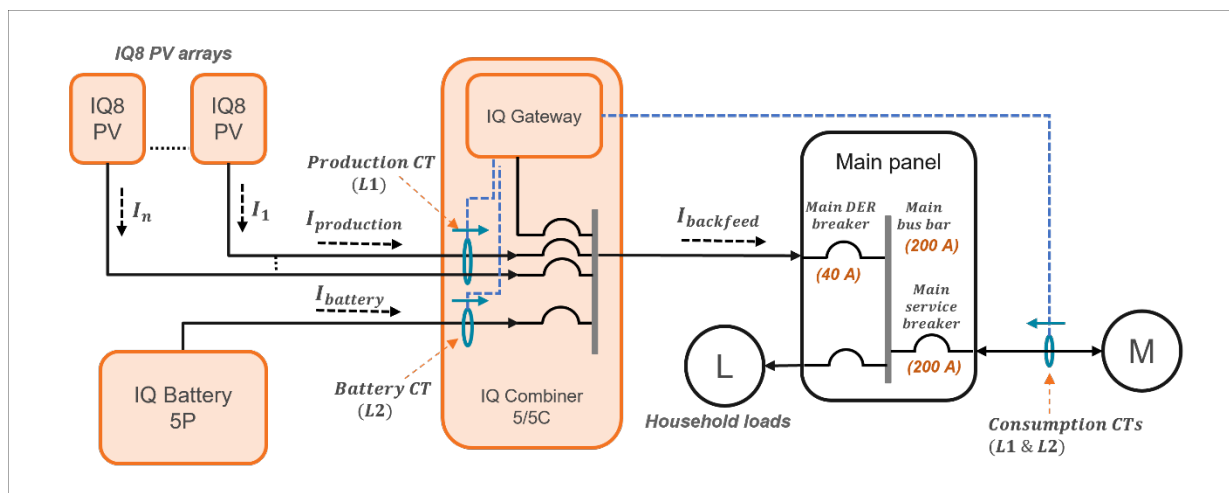

Figure 15: MPU avoidance in grid-tied configuration
This feature in the grid-tied configuration is demonstrated in Figure 15.
In Figure 15, both Production CT and battery CT are monitored, and the battery discharge is controlled first, followed by the PV production current to limit I_{backfeed} entering the main DER breaker in the main panel. The main DER breaker must be sized to the PCS limit as per NEC 2020 705.13 (C).
For example, as seen in Figure 15, if the main load panel busbar size is 200 A and the grid-side main service breaker size is also 200 A, the maximum continuous current backfeed allowable from the IQ Combiner to the main panel, $I_{\text{production}}$, is limited to:
For example, in Figure 15, I_{backfeed} allowed is 32 A. If $I_{\text{production}}$ is 0 A, the maximum allowed I_{battery} is 32 A. However, consider a scenario in Figure 15 where IQ Battery oversubscription is enabled with the Battery breaker on IQ Combiner as 20 A. I_{backfeed} allowed remains 32 A, but if $I_{\text{production}}$ is 0 A, the maximum allowed I_{battery} is 16 A.